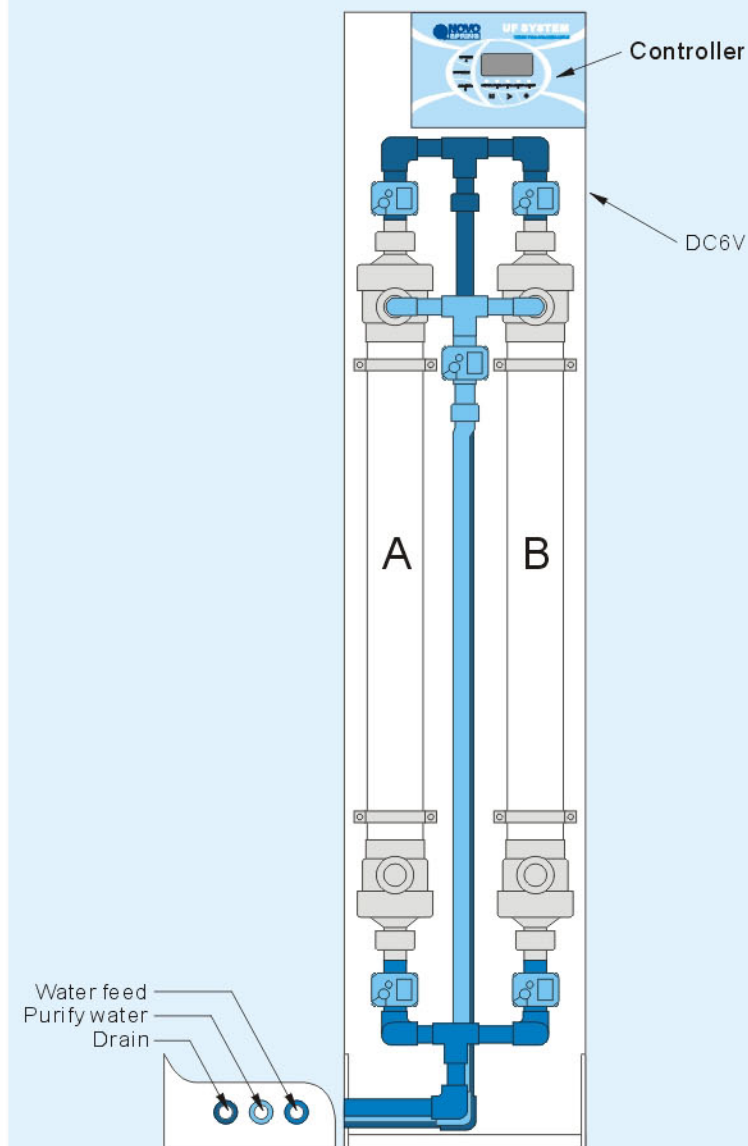

Fig 1
- Figure1(Fig1)shows the controller, water feed, purify water outlet and drain of NFYD-1260 Automatic Double Cartridges UF Purifying System (Detailed information would be referred to Technology Parameter and Elements)